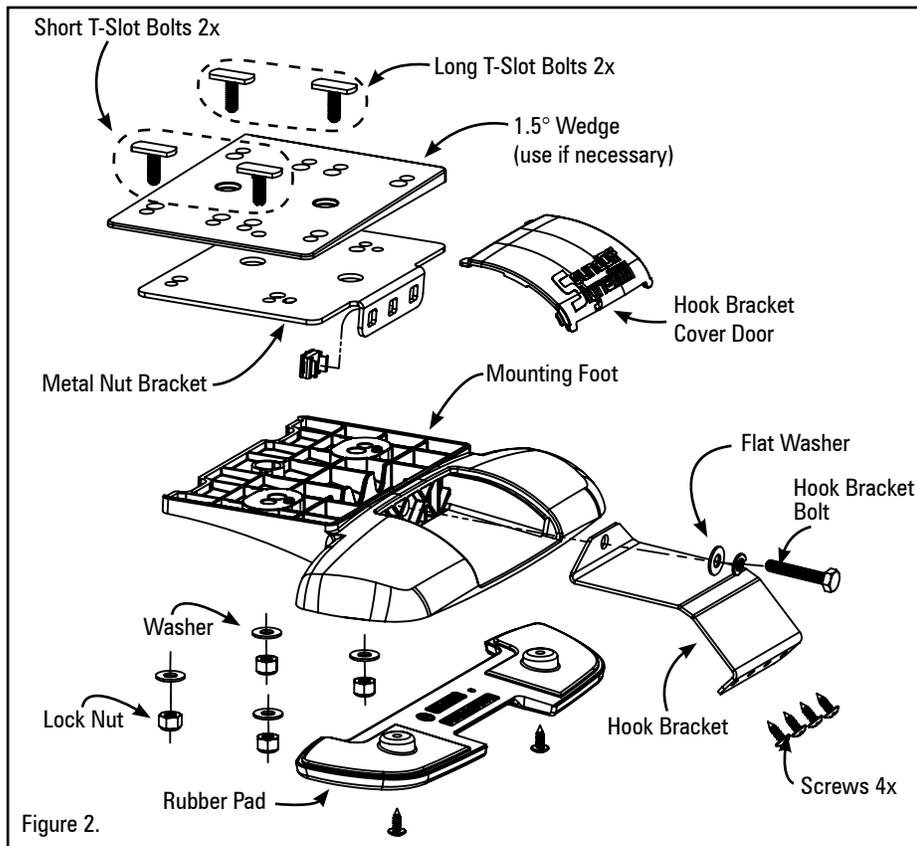

Figure 2.
4. Use the included zip tie to clamp around the end of the sleeve opposite the lightbar, as shown in Fig 2.
#### Quick Mount (Figure 2)